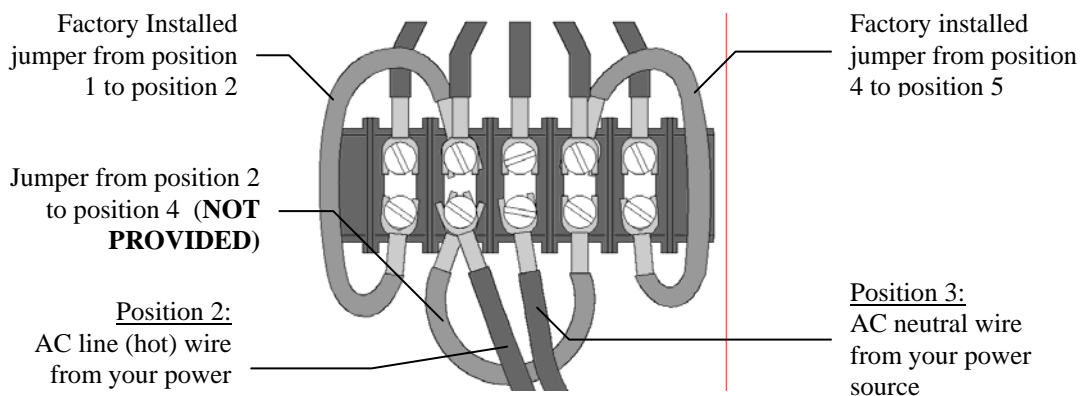

Figure 9 120 VAC Connections
5. If you are going to connect the scoreboard to a 120 VAC supply, connect the AC line wire to position 2 and the AC neutral wire to position 3 of terminal strip T3 on the junction chassis. Add a jumper from position 2 to position 4. **This jumper is not provided.** Refer to figure 9.